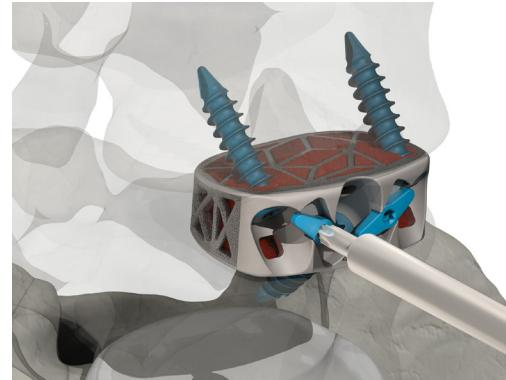

Figure 39
- ▲ If implant removal is necessary, rotate the Locking Plates to an unlocked position until the screws are no longer retained (Fig. 39). Remove the screws using the screw driver.